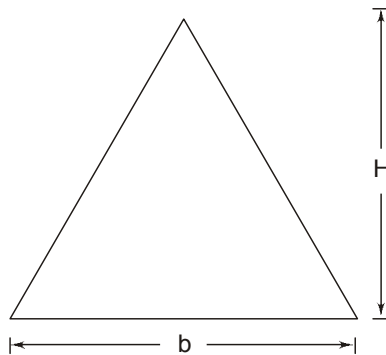

Fig. 2
- (b) Find the moment of inertia of the triangular section shown in Fig. 2. (10)